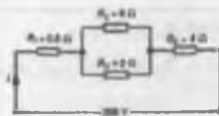
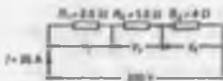

Figure 5.24
Figure 5.25
Problem 12. For the series-parallel arrangement shown in Fig. 5.24, find (a) the supply current, (b) the current flowing through each resistor and (c) the p.d. across each resistor.
- (c) The equivalent circuit of Fig. 5.24 is shown in Fig. 5.25